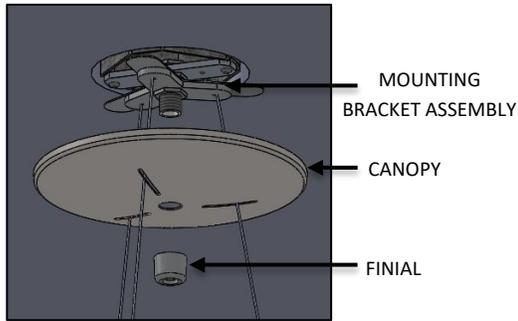

FIG. 20 – CANOPY DISASSEMBLY
- Once the MOUNTING STRAP ASSEMBLY is secured to the AIRCRAFT CABLE (3) at the GRIPLOCK (3) Unthread the FINIAL from the MOUNTING BRACKET ASSEMBLY and lower the CANOPY as shown below in FIG. 20.